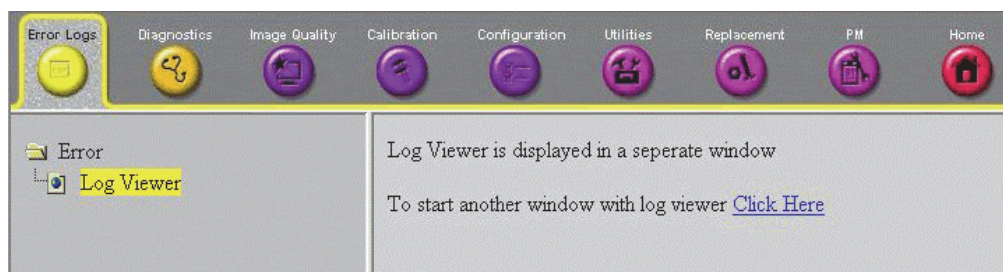

Figure 7-26 Common Service Desktop - Error Logs
- 1.) In the **Total Access Session** window (see: Figure 7-26 on page 7-24) find the item labeled **UL_VNC** and click on the [Connect] button. Within ~ 1 minute the “Proxy Config” window opens.
- 1.) In the Total Access Session window (see Figure 7-26 on page 7-24) find the item labeled UL-CSD and click on Connect. Within ~ 1 minute the “Proxy Config” window opens.